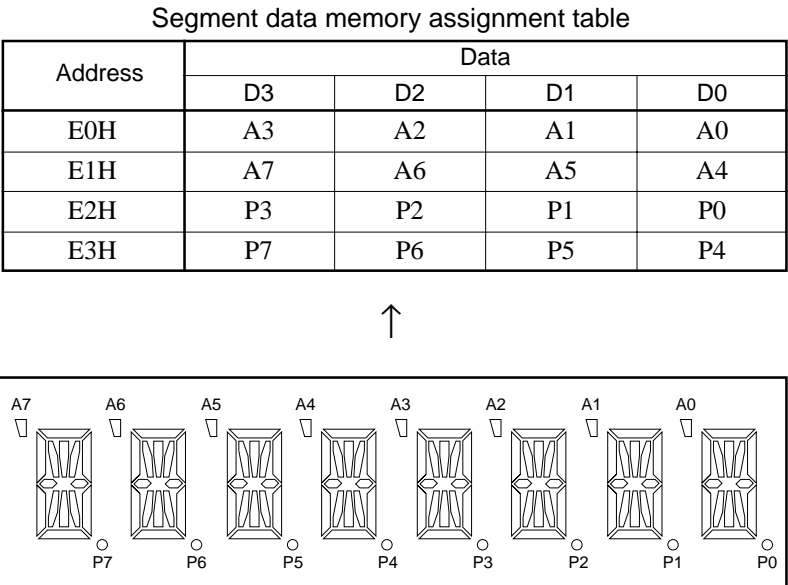

Fig. 5.5.4
(2) When segment memory is assigned to C0H-EFH
**Specifications** This application example, in which the assignment shown in (1) is made to the segment data memory area C0H-EFH, is the "column display routine 'DSSG'" and the "apostrophe and period display routine 'DSSGA'". Both assume, as in (1), that eight columns of the LCD panel are to be used. The SEG (0 + 4·n) pin for the LCD's first column is assigned to segment memory C0H, and the remaining 31 pins are assigned in order.
The pin assignment for the apostrophe and period assignments are not shown in (1). They are assigned in the manner shown in Figure 5.5.4.